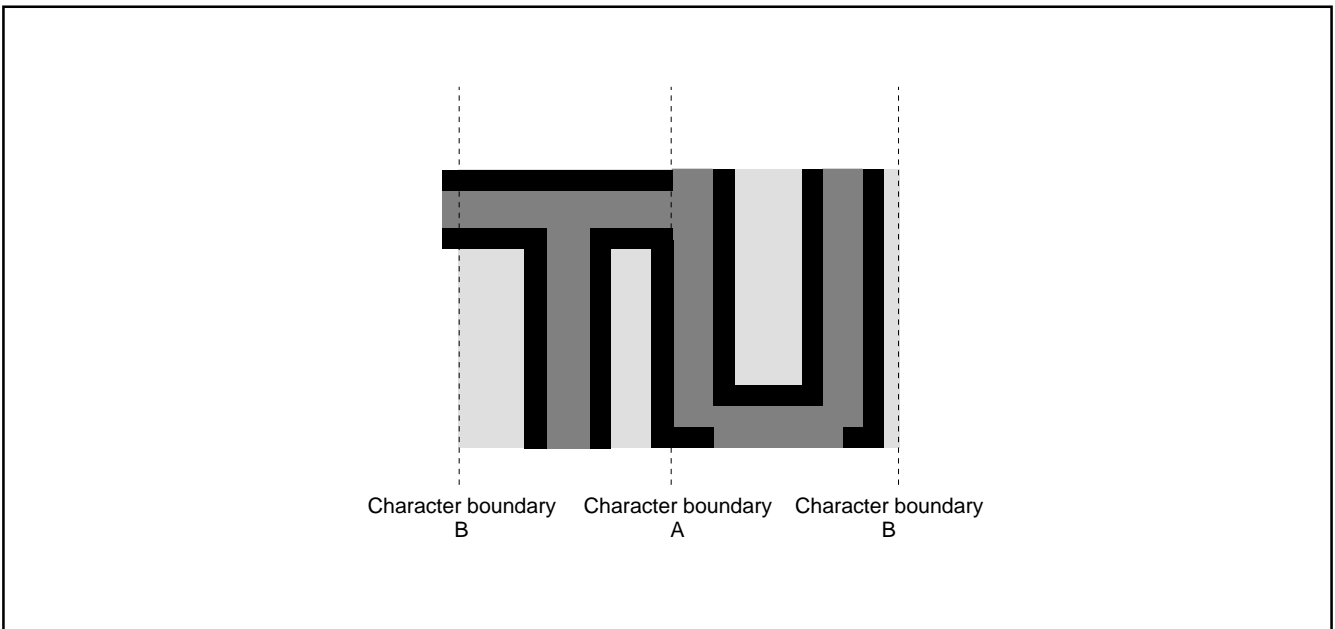

Fig. 8.11.35 Border Priority
**2:** When the border dot overlaps on the next character font, the character font has priority (refer to Figure 8.11.35 A). When the border dot overlaps on the next character back ground, the border has priority (refer to Figure 8.11.35 B).
**3:** The border in vertical out of character area is not displayed (refer to Figure 8.11.35).